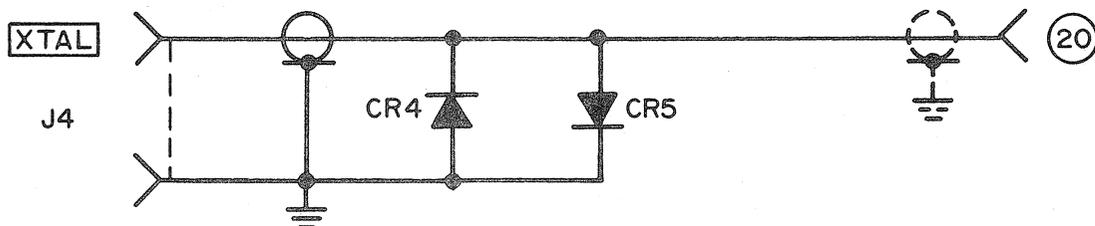

Figure 2. Schematic, Modified ALC XTAL Input
5. Connect two diodes (HP Part Number 1901-0033) in parallel between the center conductor and ground of the front panel XTAL ALC Input Connector. Connect the diodes with polarities as shown in Figure 2. Note: the diodes must be located on the XTAL input BNC connector itself to provide proper protection for the Crystal Detector.